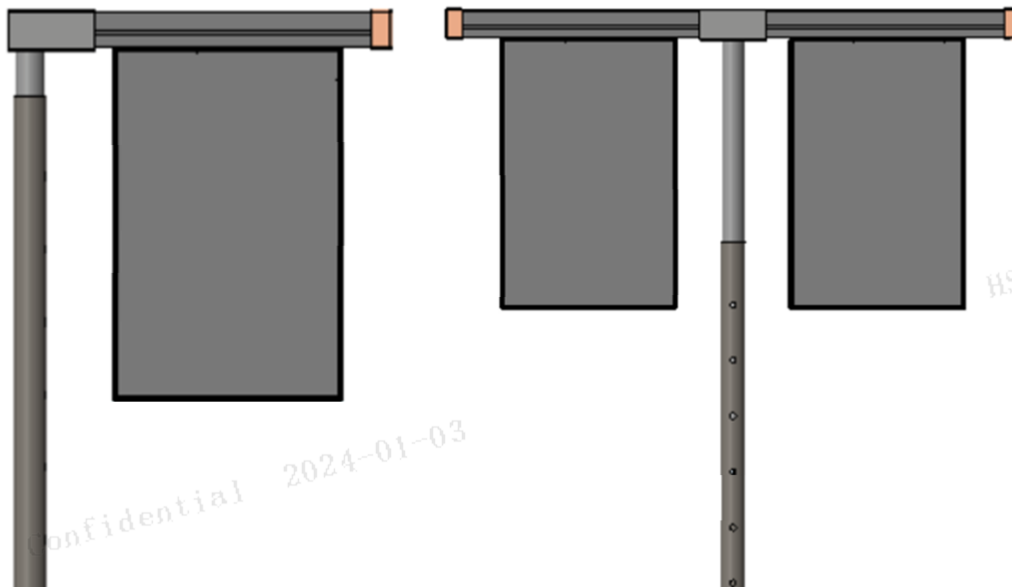

Figure 4-3 Base installation effect
3. Table-mounted installation: Mounted on the promotion table using Hanshow standard guide rails and table accessories. This method applies to single and dual-device installation scenarios, as shown in Figure 4-3: